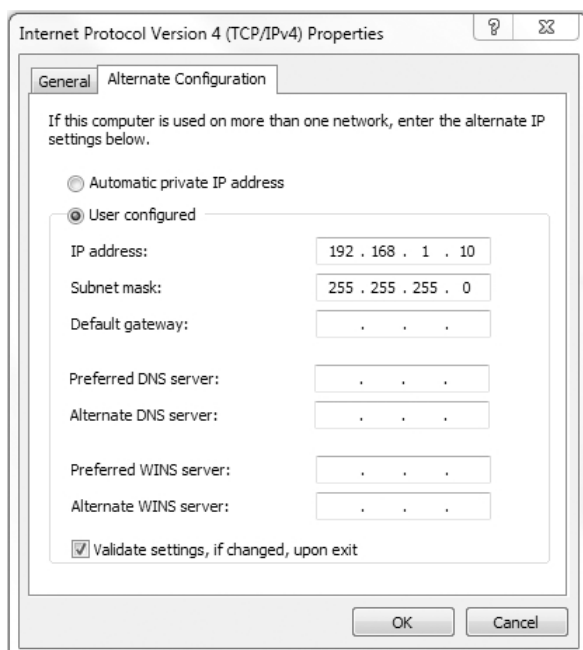

Fig. 1 Example from Windows 7
7. Configure an IP address and subnet mask to be used by your PC. See fig. 1.